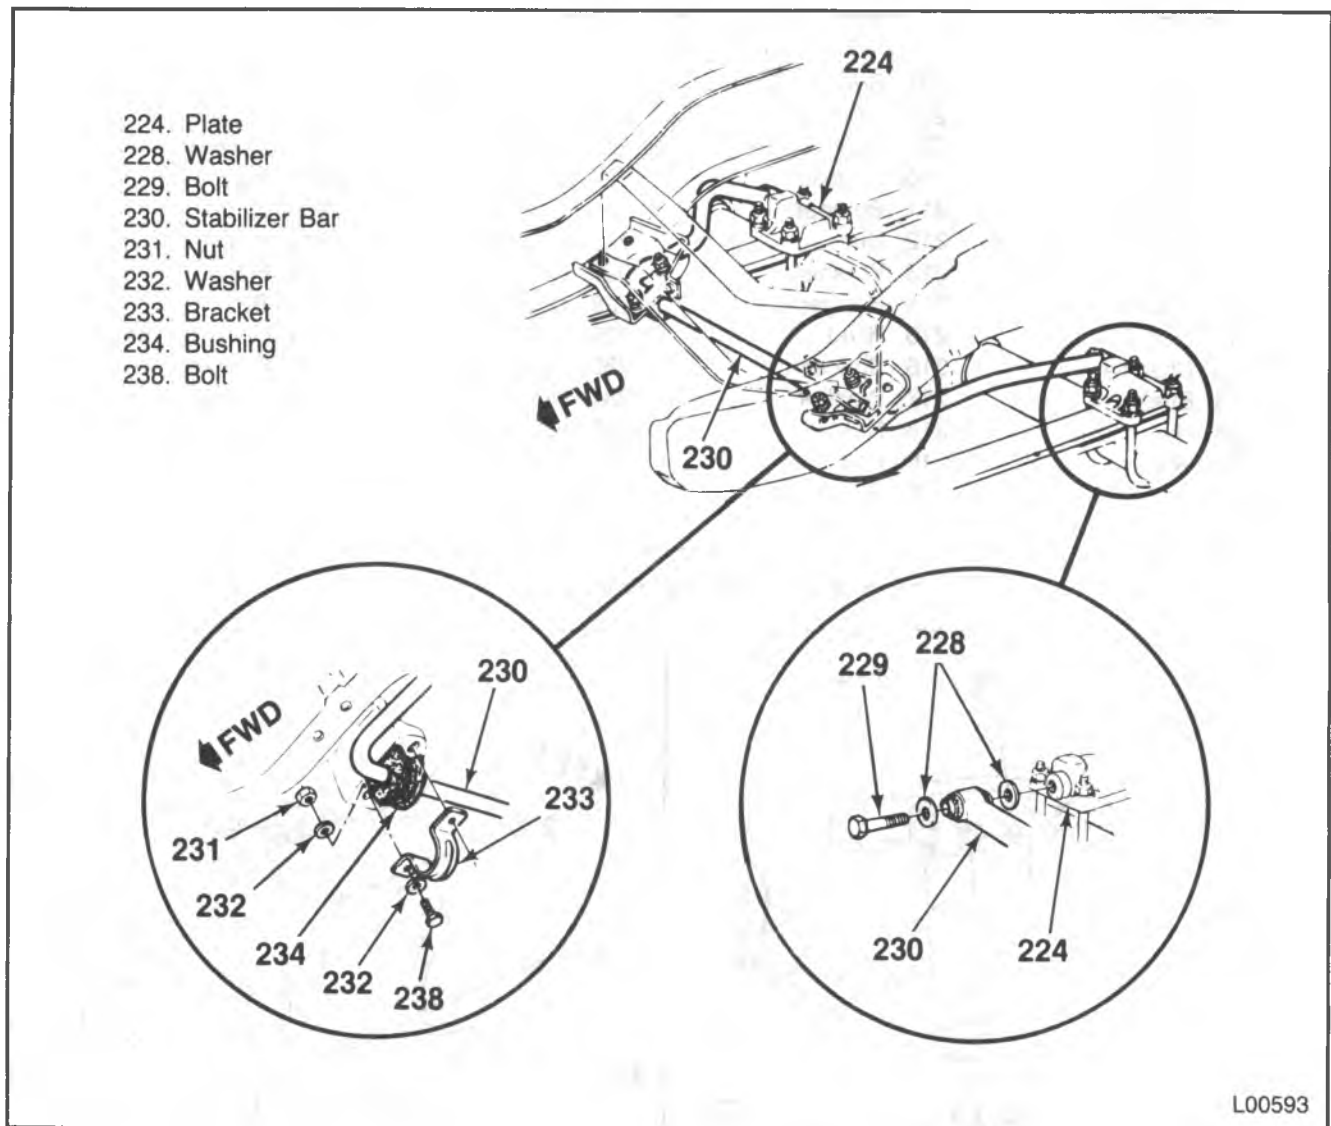

Figure 47 — Stabilizer Bar Attachment Points
4. Stabilizer bar (230) to spring plate (224).
5. Washers (228) and bolts (229) (figure 47).